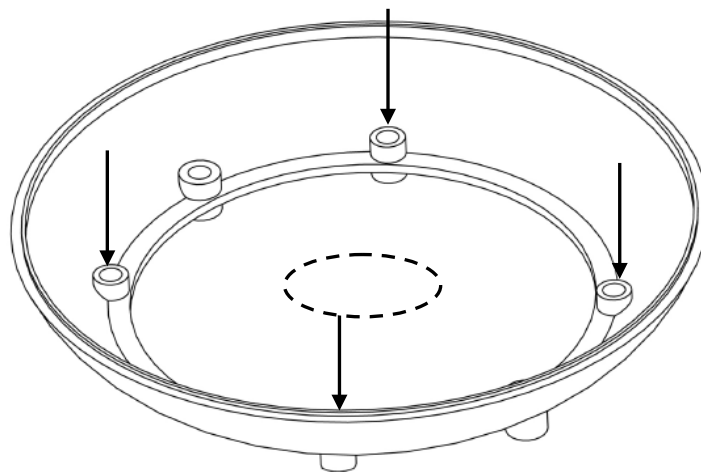

Figure 2 - Secure mounting base
5. Position the mounting base over the drill holes, insert all four screws from the hardware kit through the mounting holes in the base (indicated in Figure 2). Tighten the screws finger-tight until all screws are started, then tighten down all four screws. Ensure that the mounting base is securely attached and that the wall anchors are properly seated.